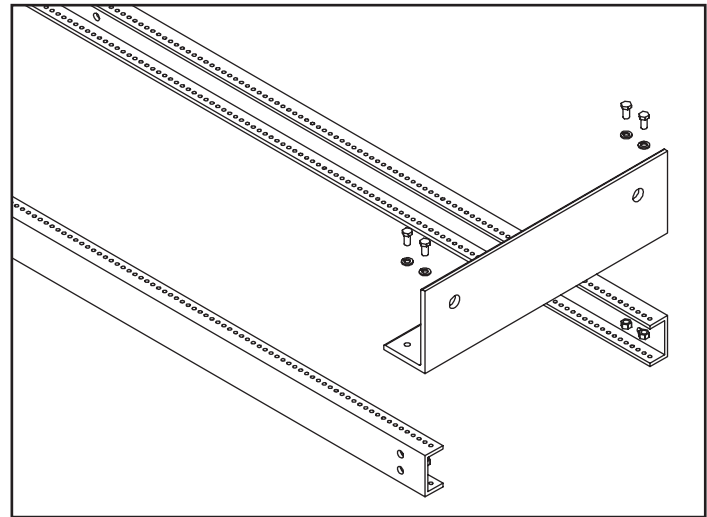

Figure 1 - Step #1
- Place base angle on vertical channels as shown in Figure 1. Align holes in angle with 3/8" holes in vertical channels. Fasten to channels with four (4) hex head bolts, lockwashers, and hex nuts and tighten by hand.